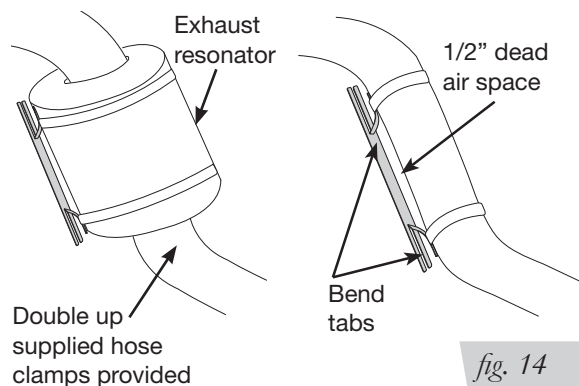

fig. 14
1. Bend tabs to provide a dead air space between exhaust pipe and heat shield (Figs. 14 & 15). Attach the heat shield to the exhaust pipe using the clamps. Bend the heat shield for maximum clearance to the air spring.